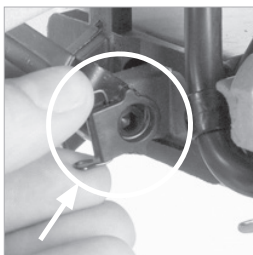

Fig. 42
- Replace the guard operating arm and its retaining clip. **(Fig. 42)**